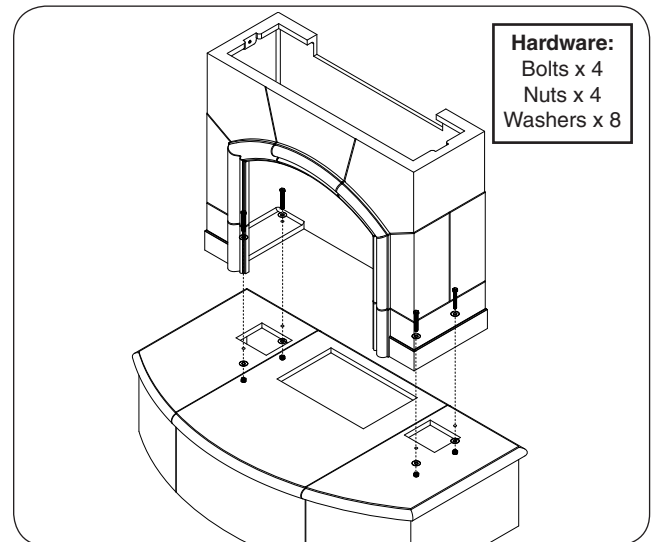

Fig. 18-1 Assemble body
1. Place the body piece on top of the hearth. Carefully align the pilot holes, and insert the hardware in the order shown in Fig. 18-1. Hand tighten, then use two  $\frac{3}{4}$ " open end wrenches (or equivalent) to fasten.